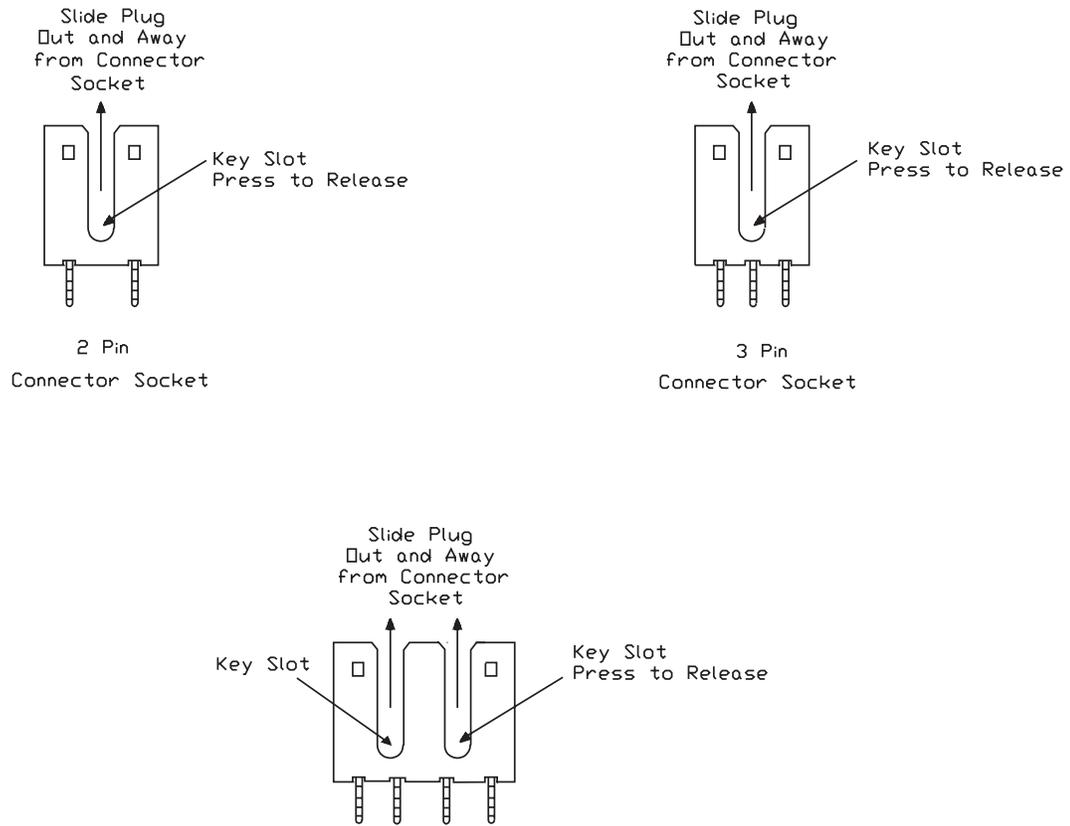

Figure 9-3
3. Starting with the connectors closest to the rear of the EXB-8200, remove all of the connectors along the edge facing you. Use the points on a pair of tweezers to push down on the bottom of the key portion of the connector plug, then push the plug away from the SV card mounted socket. Each connector socket has either one or two key slots. On those connectors with two keys, alternate pushing on each key so that the connector is removed evenly from the socket. See Figure 9-3.